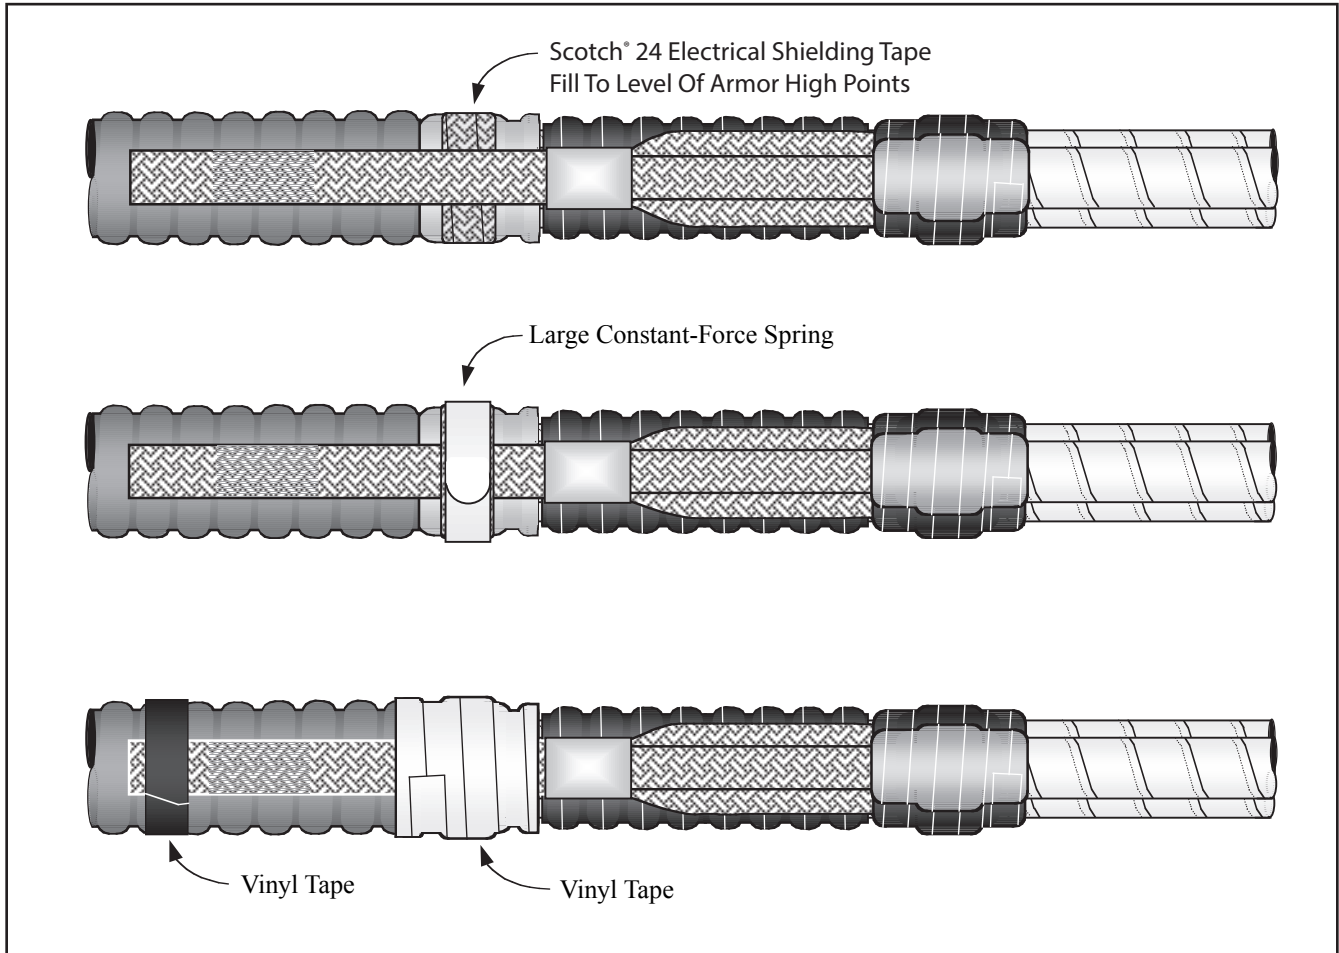

Figure 4
- 3.5 Fill one armor valley section with tightly-wrapped layers of Scotch® 24 Electrical Shielding Tape (Figure 4).
- 3.6 Secure ground braid assembly to cable armor using large constant-force spring (Figure 4). Once spring has been applied, cinch (twist with hand) to tighten.
- 3.7 Apply one half-lapped layer vinyl tape over large constant-force spring and cable armor (Figure 4).
Note: Apply vinyl tape to hold down ground strap (Figure 4).